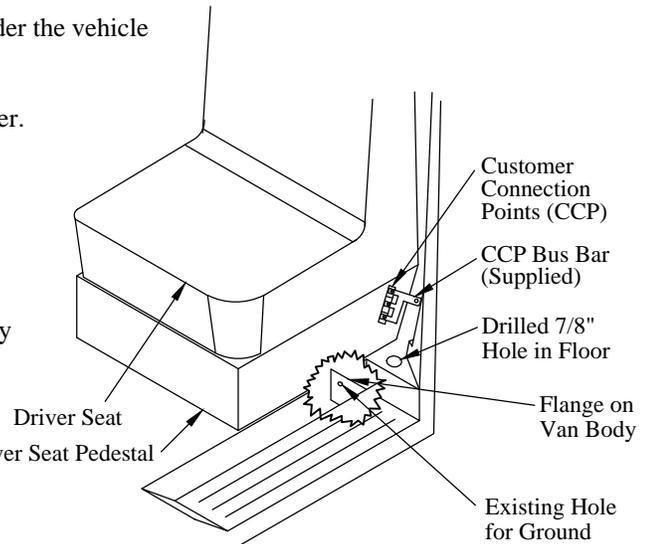

Figure 12: Customer Connection Point location.
2. **Remove** the plastic cover from the Customer Connection Points (CCP) on the driver seat pedestal (only if using the CCP for power, Figure 12).
5. **Drill** and **Deburr** a 7/8" hole in the floor next to the driver seat in the location shown (Figure 12).
6. **Install** the supplied bus bar on the CCP studs using three (3) supplied M5 nuts and star washers (only if using the CCP for power, Figure 12). The bus bar combines three (3) 60 amp connections into one 180 amp connection point.
12. **Cut** the remaining positive(+) lead long enough to reach from the circuit breaker battery (BAT) terminal to the bus bar connection on the driver seat pedestal (Figure 12) or the positive(+) battery terminal.
13. **Cut** the negative(-) lead to the length required to reach a vehicle ground point under the vehicle (Figure 12).
14. **Connect** the negative(-) lead to a vehicle ground point, on the body, under the vehicle using the supplied 5/16" x 1/2" bolt and lock nut (Figure 12).